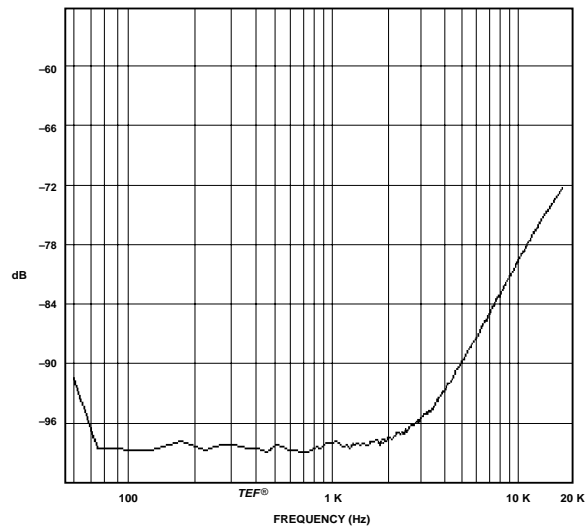

Figure 2.4 Typical Crosstalk
**Crosstalk:** See Figure 2.4.